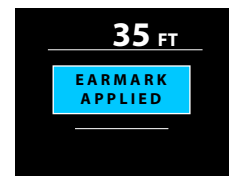

Fig. 85B - DIVE MODE (during 3 sec message)
- M (< 2 sec), while in NORM Dive Mode only - to apply a snapshot Earmark to the PCI data recorded at that time. *The graphics EARMARK APPLIED will be displayed in place of the Compass for 3 seconds (Fig. 85B).*
- M (< 2 sec), while in NORM Dive Mode only - to apply a snapshot Earmark to the PCI data recorded at that time. *The graphics EARMARK APPLIED will be displayed in place of the Compass for 3 seconds (similar to Fig. 85B).*